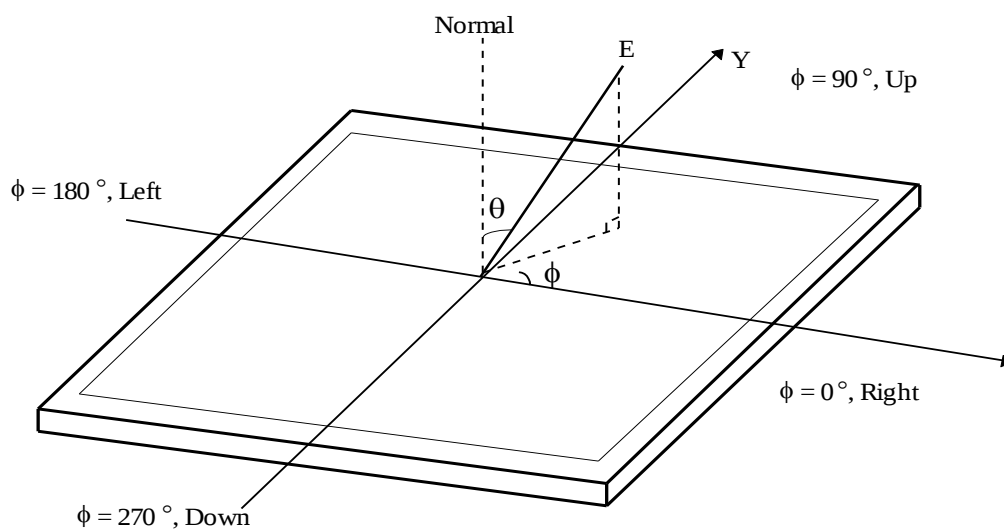

FIG. 5 Viewing Angle
6. Viewing Angle Color Shift (VACS) is defined as follows after measuring color coordinates at each angle.; $\text{VACS} = \sqrt{du^2 + dv^2}$ (@ CIE (u' , v') color space) For more information, see the FIG. 5.